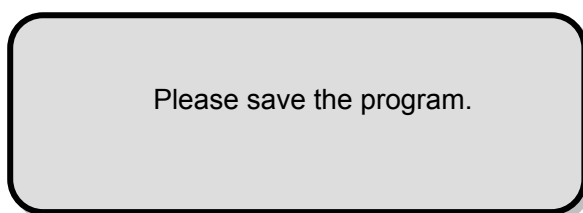

Fig. 14: Finish Programming
5. You can select the quality control well based on your demands. If you do not need quality control, continuously press **Enter** key till the symbol in front of **End** becomes ◀, and then enter the interface of saving program (Fig. 14).
2. Input the lower limit normal value and press **Enter** key to confirm. Then input the upper limit normal value and press **Enter** key to confirm. After that, the instrument enters the interface of saving program (Fig. 14).